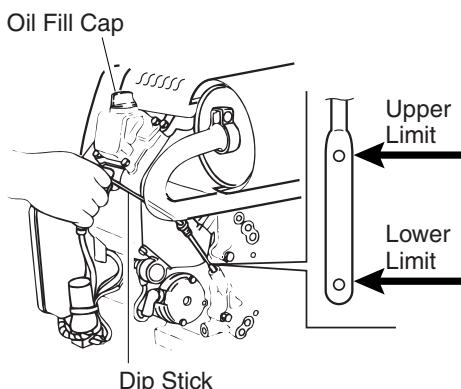

Figure 6 - Checking Oil Level (MGH8500AIE Shown)
1. Remove dipstick (see Figure 6). Wipe dipstick clean.